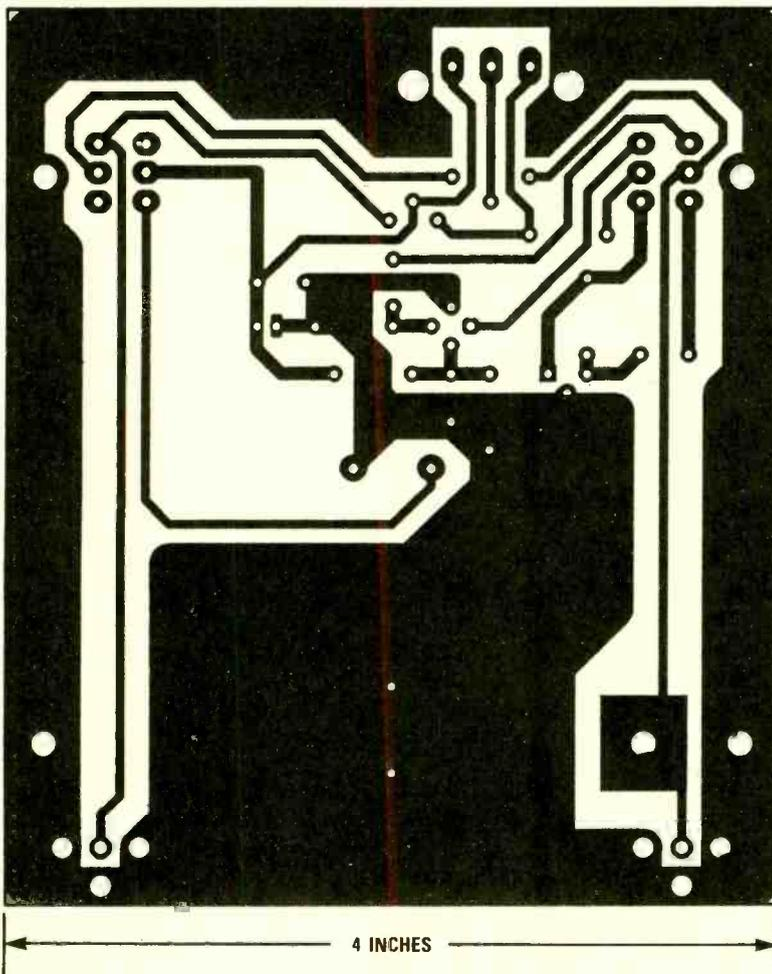
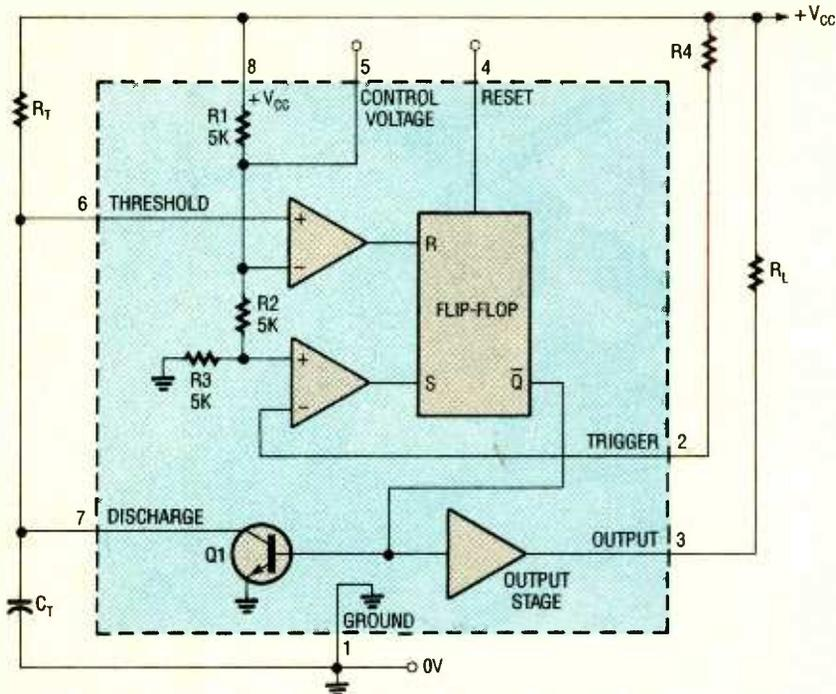
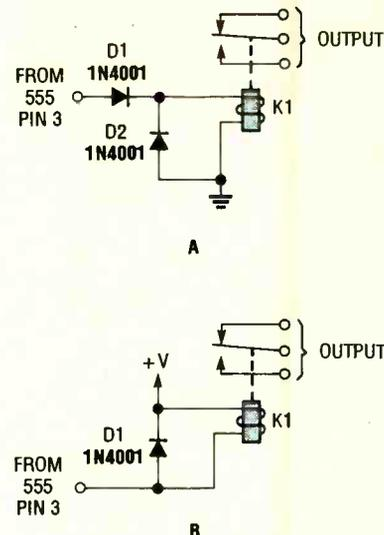

Fig. 2. The AA-7 was assembled on a printed-circuit board, measuring about 4 by 4 1/16 inches. A template for the printed-circuit board is shown here.
Fig. 1. This is a functional block diagram of the 555 timer IC, with the external components needed to use it as a monostable timer.
Fig. 3. There are two ways of driving a relay from the output of a 555, depending on whether the relay is grounded (A) or connected to V+ (B).
Fig. 1. The AA-7 Active Antenna contains only two active elements; Q1 (an MFE201 N-channel dual-gate FET) and Q2 (a 2SC2570 NPN VHF silicon transistor), which provide the basis of two independent, switchable RF preamplifiers.
A parts-placement diagram for the AA-7's printed-circuit board is shown in Fig. 3. When assembling the circuit, be especially careful that transistors Q1 and Q2, and electrolytic capacitor C4, are oriented as shown.
Although not shown in the schematic (Fig. 1) or the parts-placement (Fig. 3) diagrams, an optional LED power indicator can be added to the circuit. Adding a power indicator to the circuit allows you to tell at a glance if the circuit is on; leaving the circuit on, even though the AA-7 draws only about 0.7 mA, will eventually discharge the battery. Of course, adding an LED will increase the current drain by about 7 mA, but the red glow makes it obvious when the unit is on.
Fig. 3. When assembling the AA-7's printed-circuit board, be especially careful that transistors Q1, and Q2, and electrolytic capacitor C4, are oriented as shown in this parts-placement diagram.
**555 Timer Basics.** The standard 555 timer IC is a robust and easy-to-use device that is housed in an 8-pin DIP. It can be used with any DC supply in the 4.5- to 16-volt range, consumes a quiescent current of only a few milliamps, and can drive up to 200 mA of current into an external load connected to its output terminal. Figure 1 shows a functional diagram of the IC and the external components and connections needed to make it act as a basic "triggered timer" or monostable multivibrator. Note that the internal resistors, R1 through R3, form a supply-driven voltage divider. That network generates a  $\frac{1}{3}V_{CC}$  reference voltage on the non-inverting input of
**A Practical Timer Circuit.** Figure 2A shows a practical fixed-period (about 50 sec) manually-triggered 555 timer, and the waveforms of the important points in the circuit are shown in Fig. 2B. The circuit is similar to the circuit model back in Fig. 1. However, in the Fig. 2 circuit, the timing action is initiated by briefly closing S1, pin 5 is decoupled from noise via C2, and the output state is visible via LED1. As you can see from Fig. 2B, the fixed-period output pulse (set via R1 and C1) is available at pin 3, and a high-imped-
lamps and LED's) at currents up to 200 mA; but if inductive loads such as relays, buzzers, motors, etc., are used, diodes must be used to protect the IC's output against damage from inductive kick-back, as shown in Fig. 3. Note in the Fig. 3A circuit that the relay load is connected between pin 3 and ground, so the relay is normally off, but is driven on for the duration of the 555 timing period; however, in the Fig. 3B circuit the relay is wired between the positive-supply line and pin 3, and is thus normally on, but turns off for the duration of the timing period.
Fig. 2. The circuit for a simple 50-second timer is shown in A; note its similarity to the previous circuit. The waveforms produced at different points in the circuit are shown in B.
An important part of vision enhancement are the heads-up-displays, or HUD's, that would overlay the image obtained by an IR camera or other vision-enhancement sensor over the driver's normal view of the road (see Fig. 3). For example, Fiat and Renault are developing a HUD that